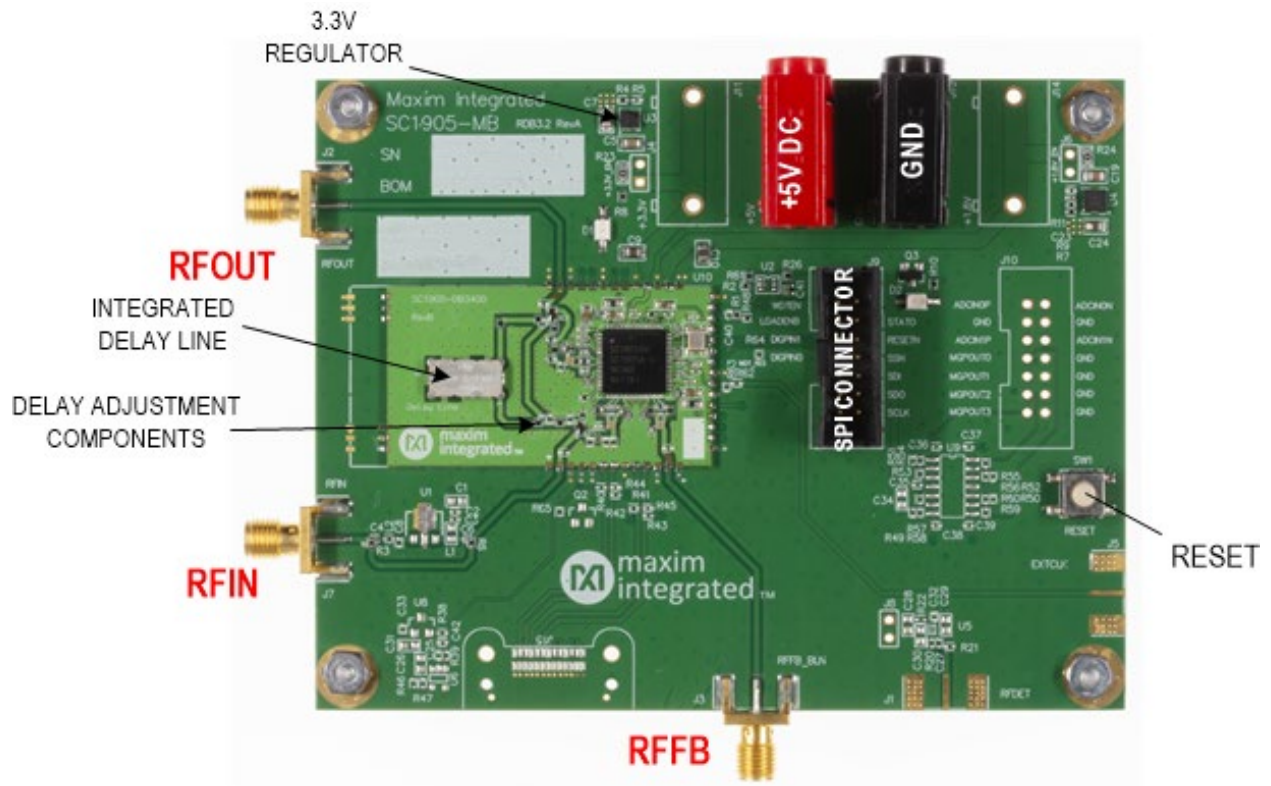

Figure 4. SC1905 reference board and motherboard.
The SC1905 Reference Daughter Board (DB) is mounted on a larger motherboard (MB) which includes DC and RF connectors and supply voltage regulators (**Figure 4**).